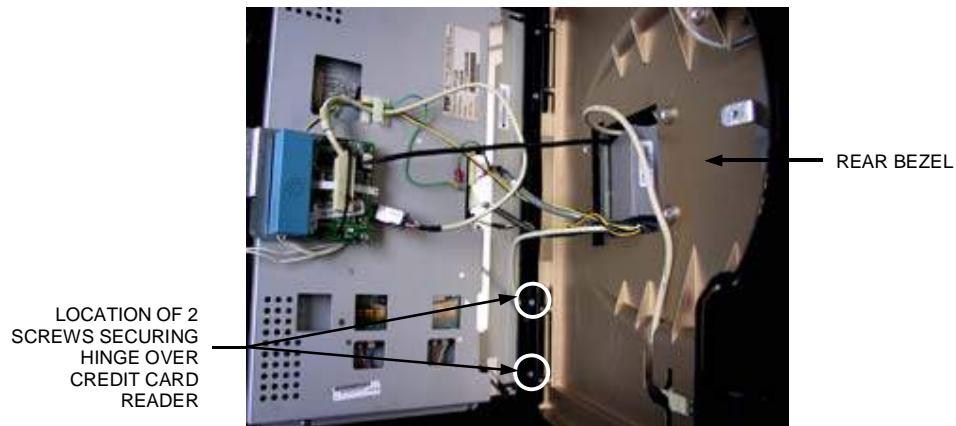

FIGURE 5 - TOP VIEW OF OPEN MONITOR ASSEMBLY
7. Remove the 2 screws that secure the monitor hinge to the front bezel on the same side of the system where the credit card reader is located (see Figure 5), then flip the bottom of this hinge up to gain access to the 2 screws securing the credit card reader.
3. Fold the monitor hinge back into place over the credit card reader, and secure it with the same two screws you removed earlier (see Figure 5).